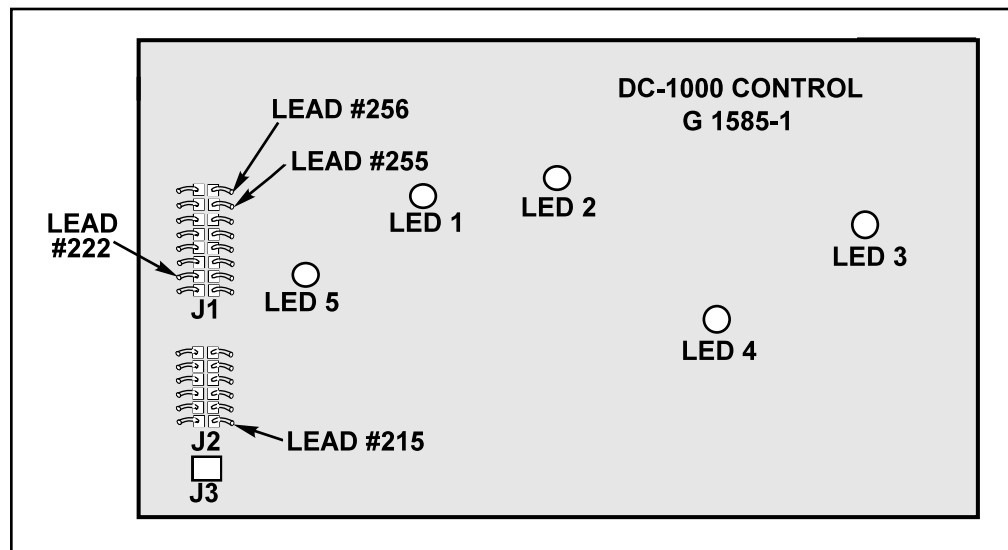

FIGURE F.10 - LED 1 Test Points
- a. If the correct voltage is not present, check leads #255 and #256 and associated wiring for loose or faulty connections. See wiring diagram and Figure F.10.